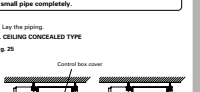

Fig. 25
• Connect the pipe against port on the indoor unit, turn the flare nut with your hand. When the flare nut is tightened properly by your hand, hold the body with coupling with a separate spanner, then tighten with a torque wrench (Fig. 25).